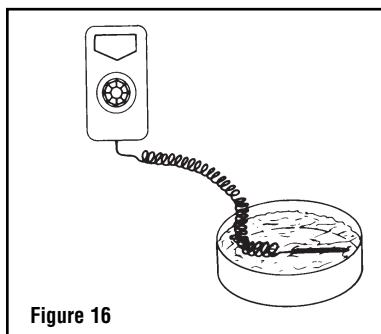

Figure 16
- A. If accurate measurement standards are not available, the thermostat can be readily adjusted to a known temperature standard such as boiling water (212°F) (see Figure 16).